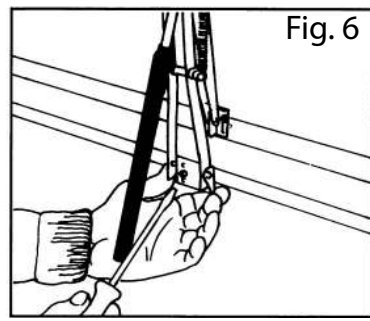

Fig. 6
4. Tighten the sill bracket of the opener onto the center of the windowsill - see Fig.6